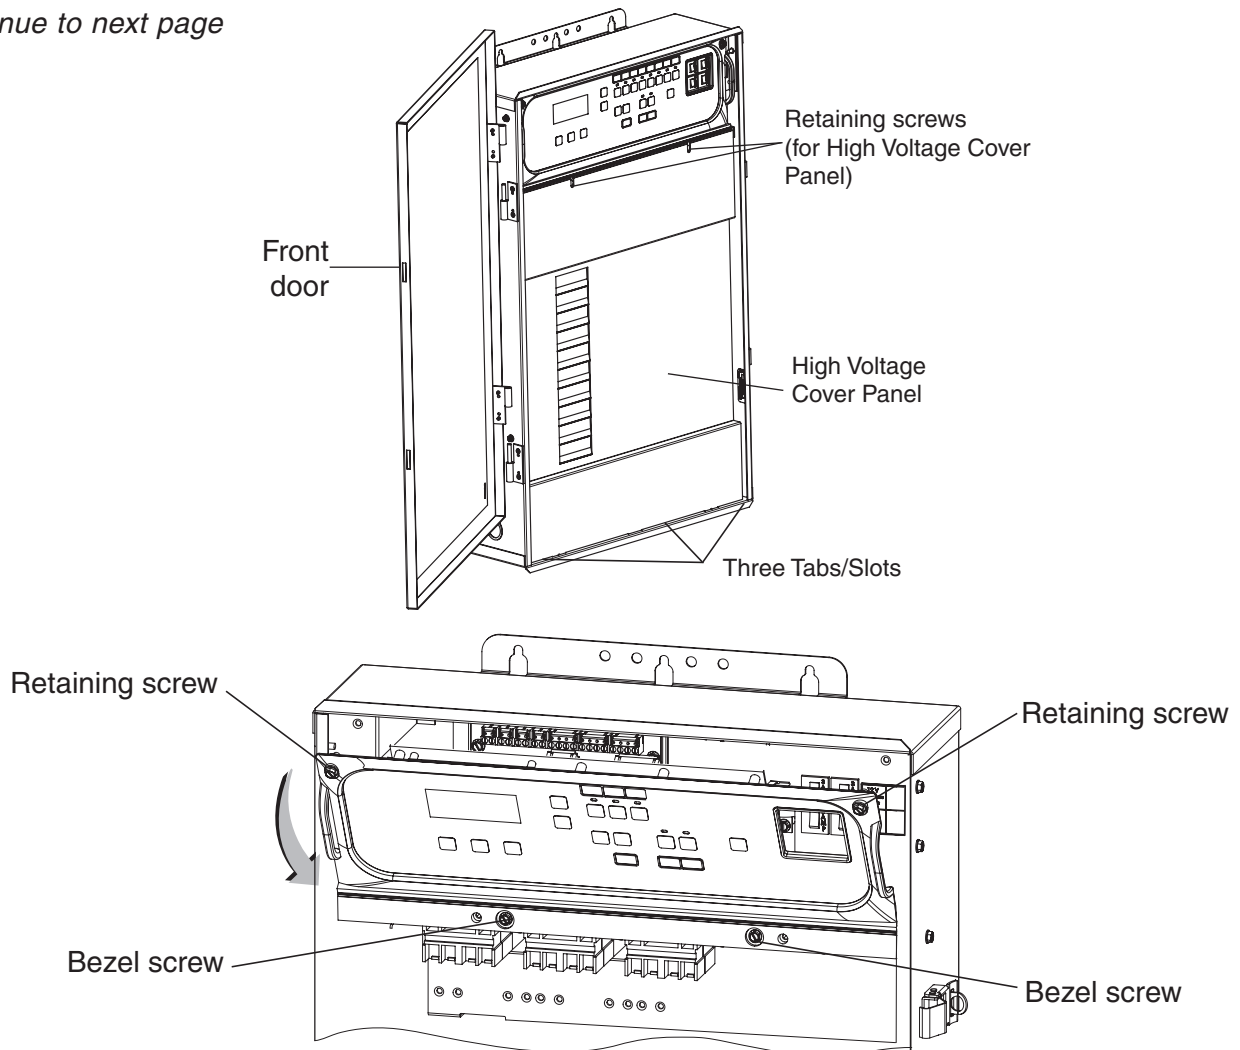

Figure 2. Load Center or Power Center (2012 or later)
7. Remove the two screws securing the outdoor control panel bezel. Remove the outdoor control panel and bezel from the enclosure. See Figure 2 on page 4.
1. After all electrical connections have been completed, close the Outdoor Control Panel and tighten the two retaining screws. **Reinstall the High Voltage Panel:** Insert the panel's three tabs into the lower slots on the enclosure. Secure the panel with the two retaining screws. See Figure 2 on page 4.